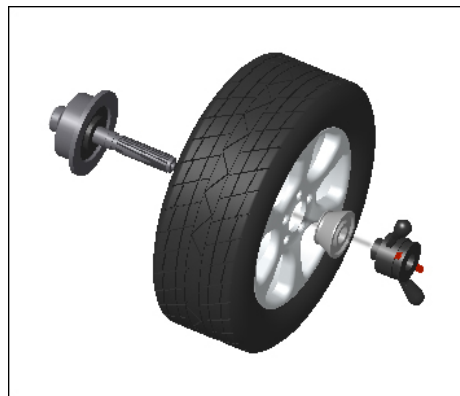

Fig 6-2
6.2.2.2 Negative positioning (refer to Fig 6-2):